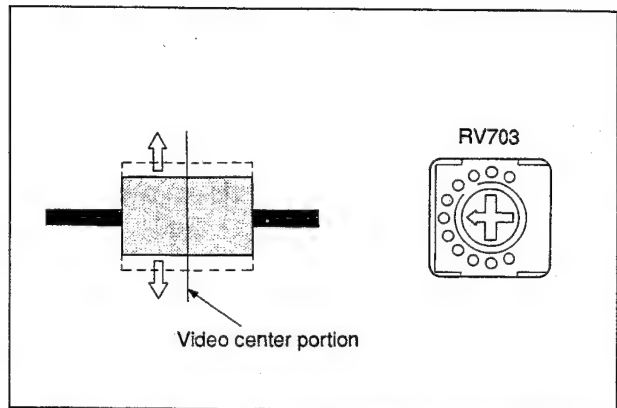

Fig. 6-9-3 RF wave form confirmation by RV703 adjustment
5. Play back the recorded portion at step-1 of the tape, maximize the RF wave shape (video center portion) by using RV703 on SST-2AP board. (See Fig. 6-9-3.)